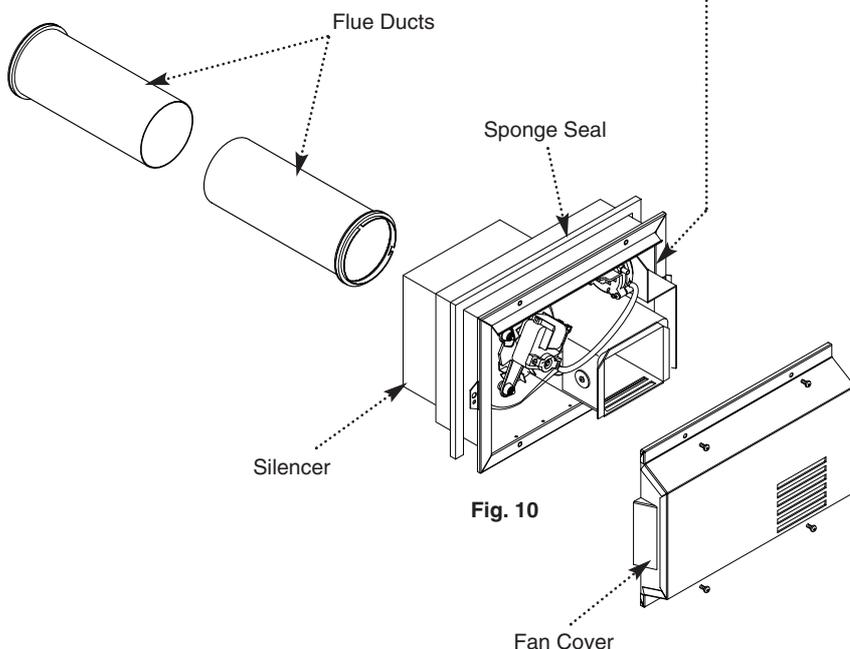

Fig. 10
20. Fit the sponge seal to the new fan box (Fig. 10). Offer the new fan box to the cavity and measure the flue length required for the installation.